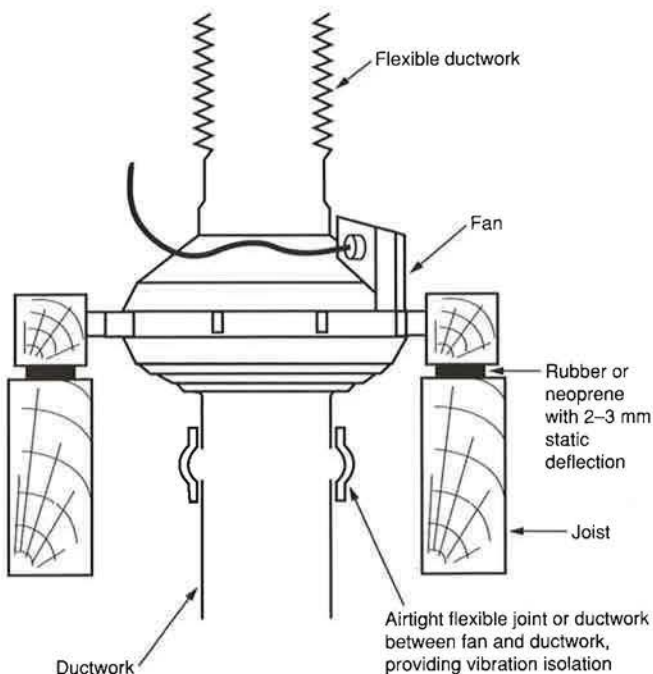
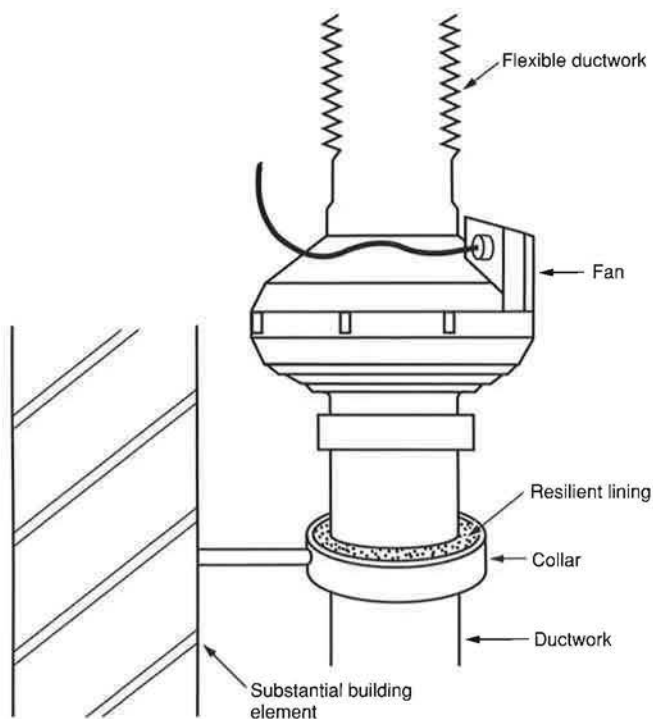

Figure 5 Side view of a fan which is resiliently isolated from the ductwork and the structure
Figure 6 Side view of a fan connected to ductwork, where the ductwork is resiliently isolated from the structure
- Resiliently isolating the fan from the ductwork and structure (see Figure 5), or connecting the fan to the ductwork but isolating the ductwork from the structure (see Figure 6)